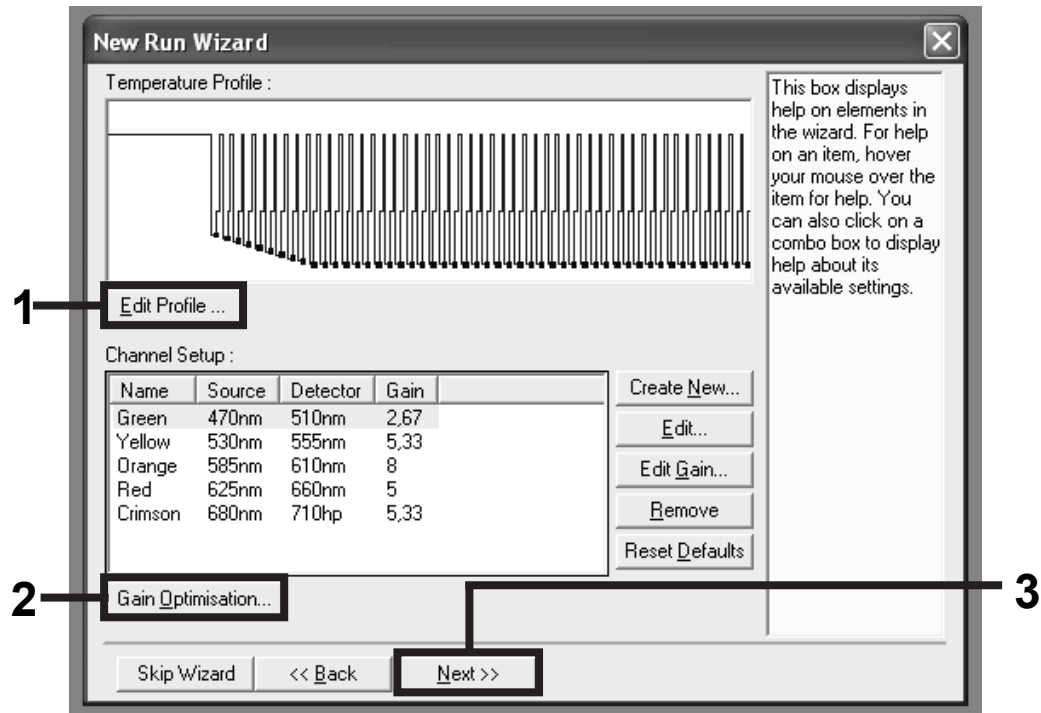
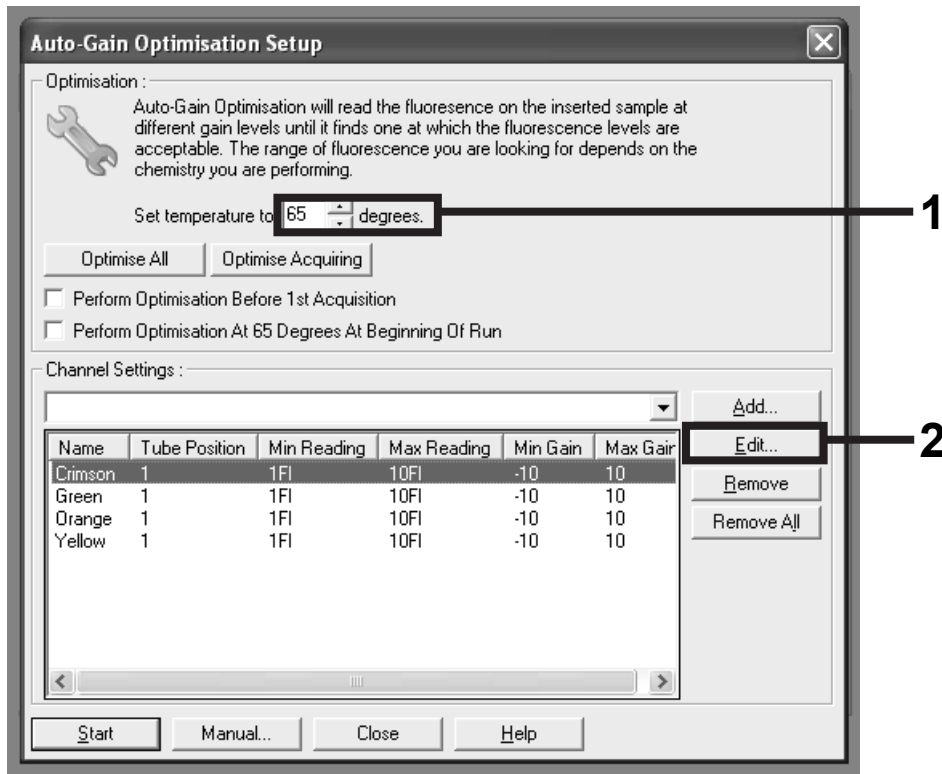

Figure 3. Editing the profile.
Figure 6. Adjusting the fluorescence channel sensitivity.
Adjusting the fluorescence channel sensitivity	Figures 6–11
- Click the "Edit Profile" button in the next "New Run Wizard" dialog box (Figure 3), and program the temperature profile as shown in Figures 3–5).
- The detection range of the fluorescence channels has to be determined according to the fluorescence intensities in the PCR tubes. Click "Gain Optimisation" in the "New Run Wizard" dialog box (see Figure 3) to open the "Auto-Gain Optimisation Setup" dialog box. Set the calibration temperature to 65 degrees to match the annealing temperature of the amplification program (Figure 6). Click "Edit" to set the gain optimization of each channel (Figure 6).